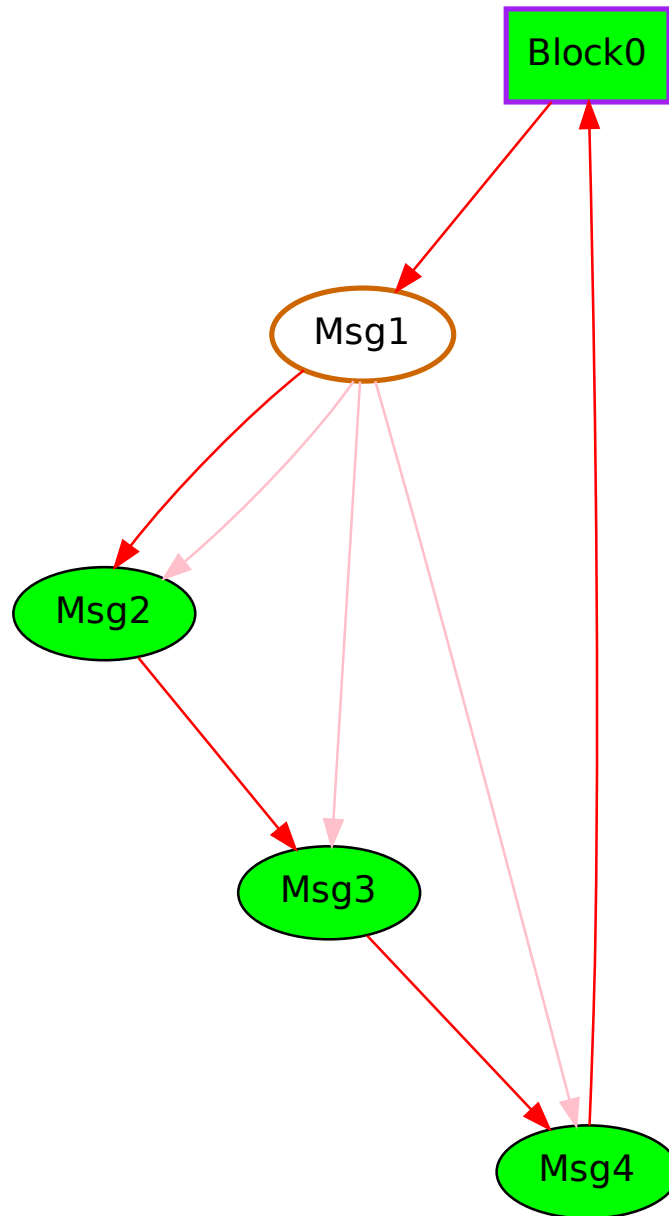

Figure 2.45: Schedule for testReferenceEdgeLoop3 (test\_referenceEdges.py).
3. testReferenceEdgeLoop3 Use a schedule with a loop of a block and four tmsg. The loops run with 1Hz. There is are references between the tmsg nodes. Check for the correct gid value in the timing messages. Check for the correct parameter value when using the reference. See Figure 2.45.